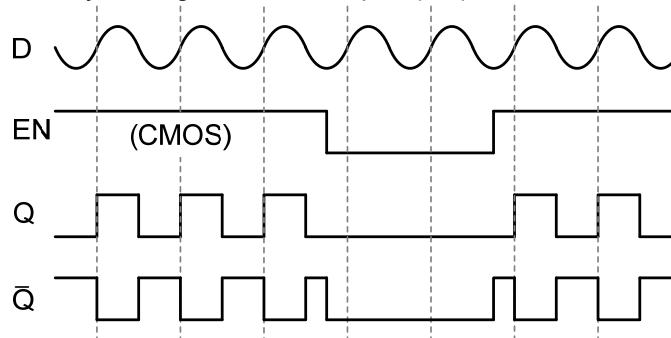

Figure 2
Figure 2 illustrates the timing sequences for the CTS LV394 in the $\div 1$ mode which is determined by leaving the DIV-SEL open (NC). It also illustrates the enable in the active High mode being controlled by a CMOS signal. This mode is determined by leaving the EN-SEL open (NC).